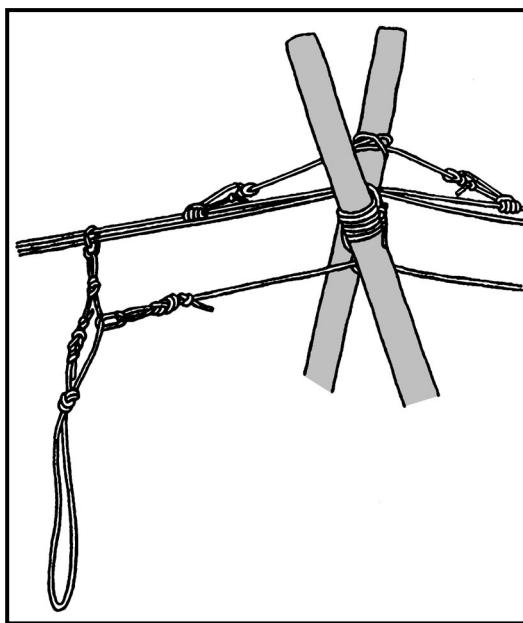

Figure 7-23. Carrying rope for use on a traverse.
(4) Use a carrying rope to attach loads to the traverse ropes (Figure 7-23). Join the ends of a 14-foot sling rope with a square knot and two overhand knots. Displace the knot one-third of the distance down the loop and tie an overhand knot both above and below the square knot. This forms two small loops and one large loop that is longer than the two small loops combined.
(5) Attach the carrying rope to the traverse ropes with carabiners (or a pulley) that have the gates reversed and opening in opposite directions. Attach a belay rope to the center loop of the carrying rope using a fixed loop or locking carabiner on the side opposite the joining knot (Figure 7-23). When the suspension traverse is near horizontal, a second rope may be needed to pull the load across and should be attached to the carrying rope the same as the first.
(6) Insert second carabiner into the one placed into the wraps of the A-frame. This is where a belay rope will be attached.
(7) With a sling rope, tie a six wrap middle-of-the-rope Prusik knot to both static ropes near the far side off-loading point. This acts as a stopper knot for the man descending, preventing him from hitting the lower anchor.
(8) Attach the load by running the long loop of the carrying rope through the load or through the soldier's harness and attaching the bottom loop to the traverse rope carabiner.